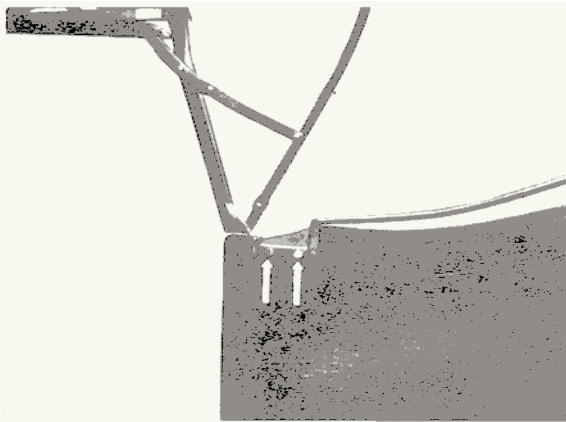

Fig. 70
5. Undo 2 hex. hd. bolts at both lateral top mountings (see fig. 70).